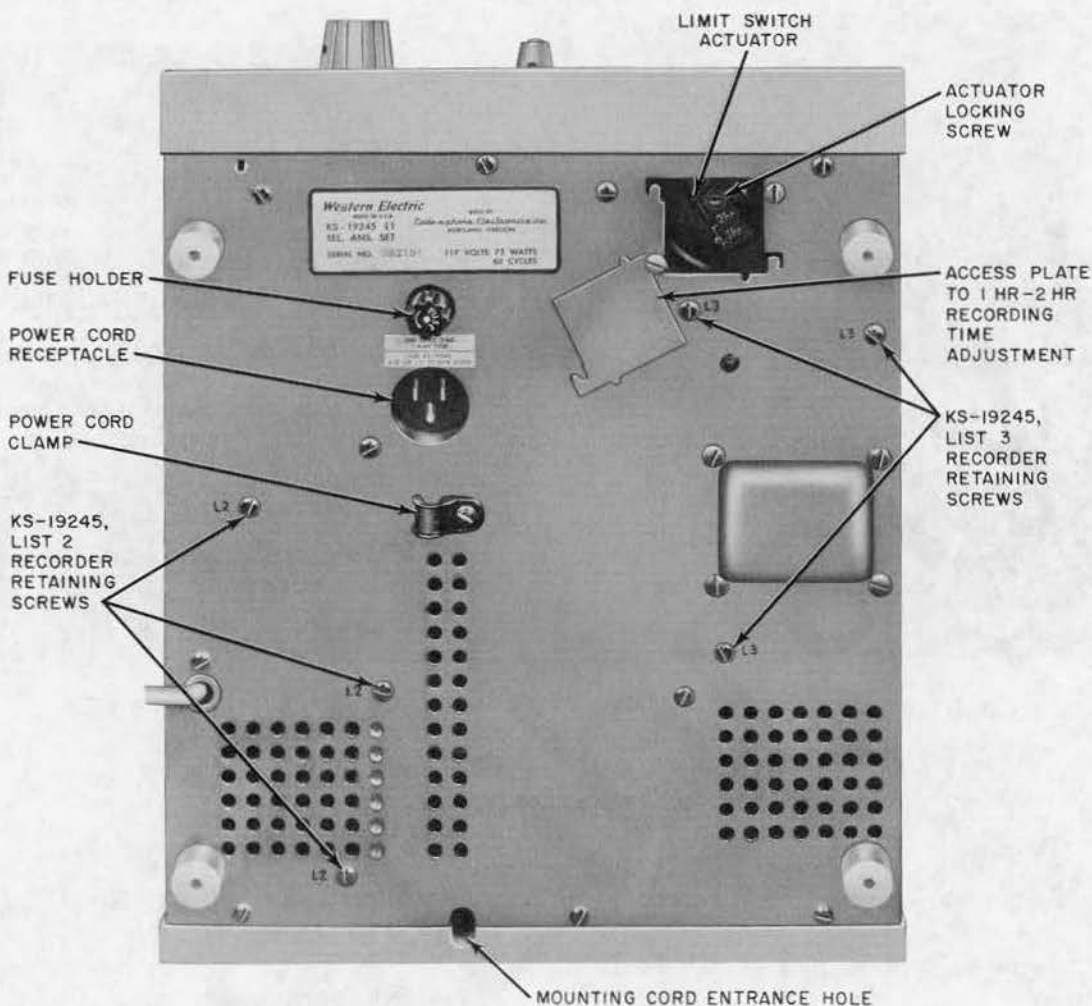
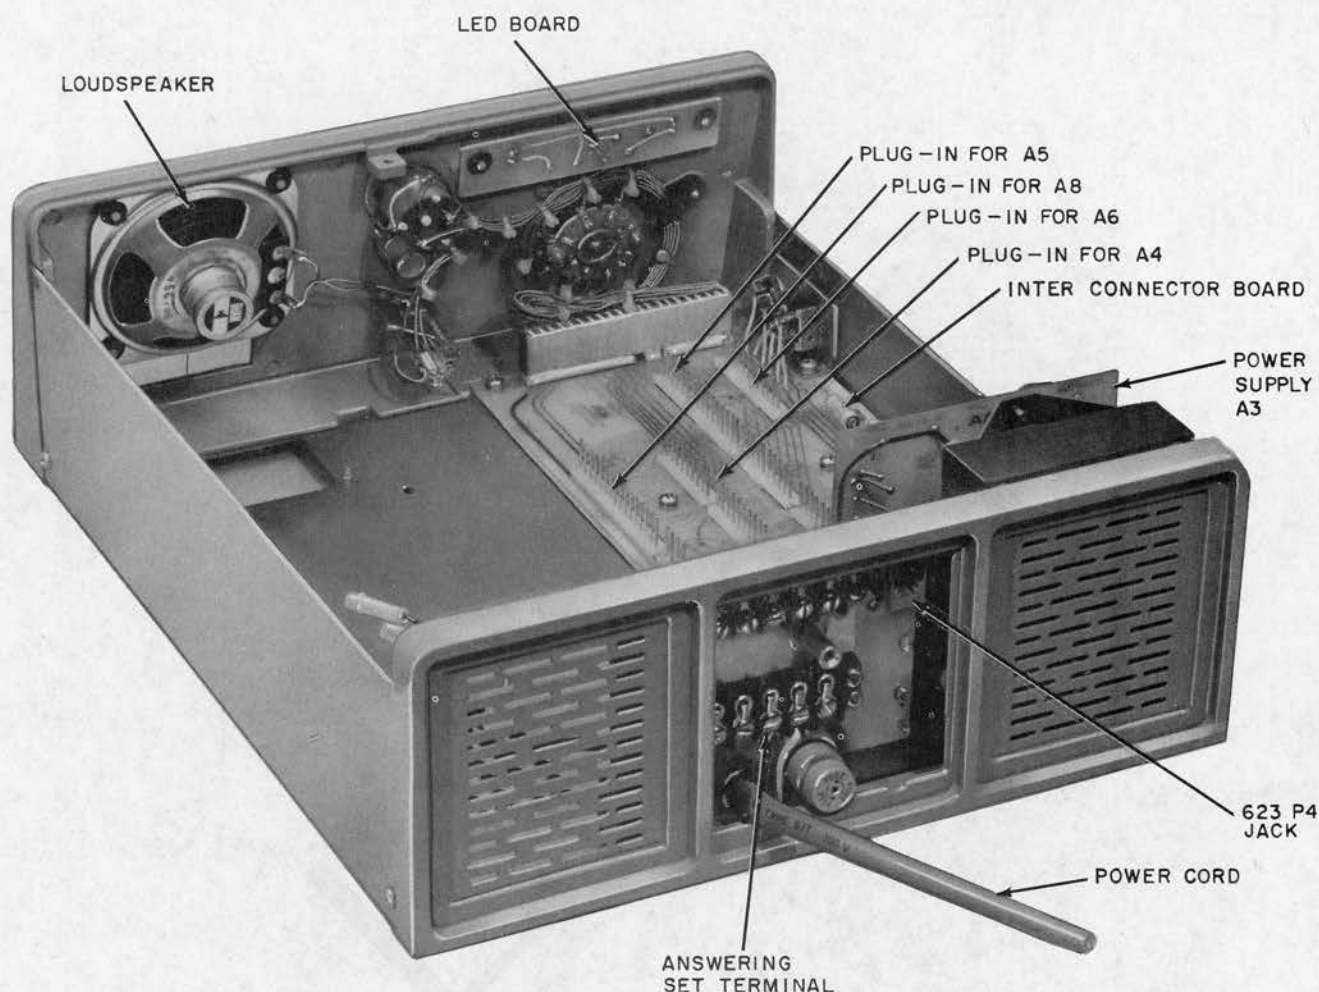
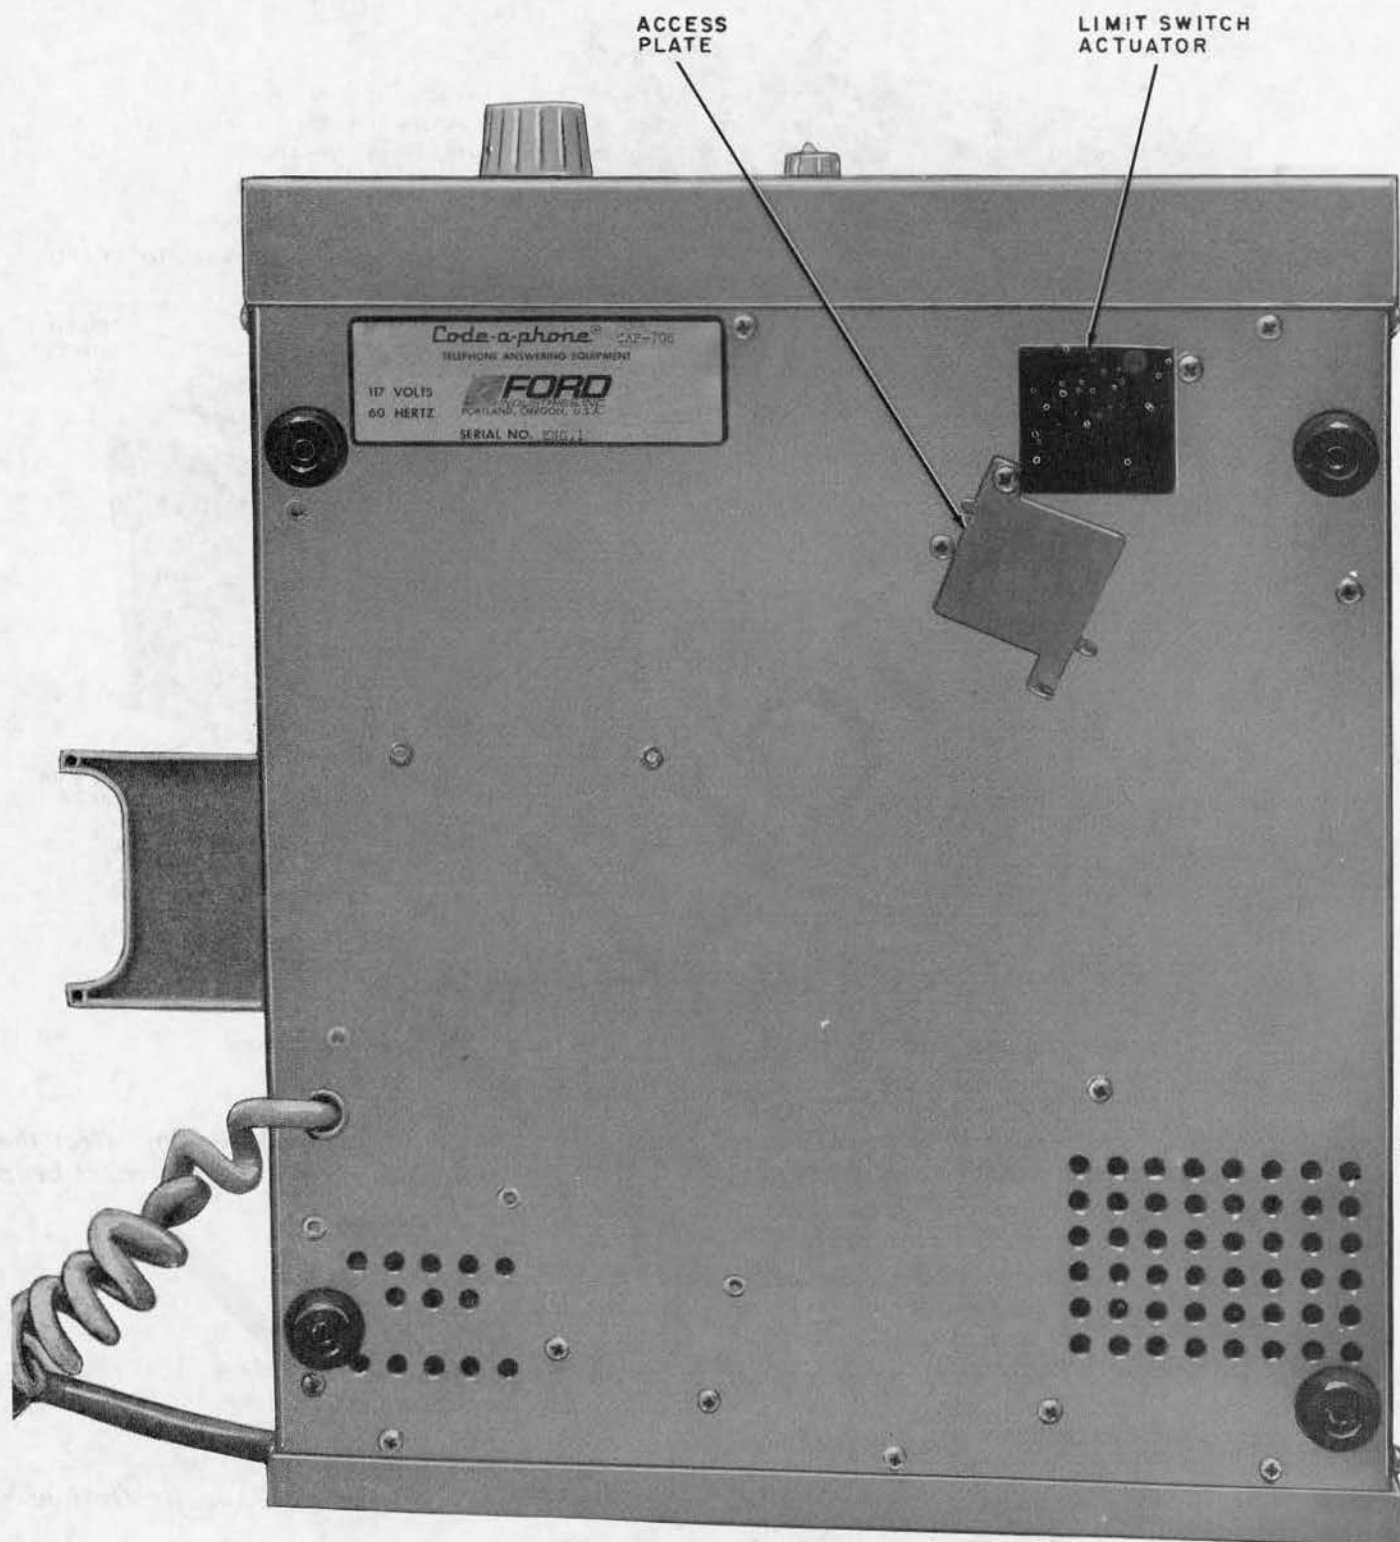

Fig. 19—KS-19245, List 1 Telephone Set—Bottom View
Fig. 20—KS-19245, List 13 Telephone Set—Cover and Components Removed
Fig. 21—KS-19245, List 13 Telephone Answering Set—Bottom View
- (a) Adjust message recording capacity (List 1, Fig. 19; List 13, Fig. 21).
- (3) Remove access plate:
- (4) Adjust limit switch actuator (List 1 set only, Fig. 19):
- (5) Adjust limit switch actuator (List 13 set only, Fig. 21):
- (a) Slide actuator to 2hr position. A detent will lock actuator in position (Fig. 21).
- (6) Replace access plate.
(c) A 1-ampere (3AG1) fuse is provided in this answering set for protection (List 1, Fig. 19; List 13, Fig. 20).
(d) A List 11 power cord (shipped loose) connects to receptacle on List 1 set only (Fig. 19). List 13 set power cord is wired to set (Fig. 20).
(1) Remove terminal board access plate located at the rear of the answering set (Fig. 20 or 23).
(2) Insert suitable mounting cord through hole provided in base of answering set (List 1 only, Fig. 19).
(3) Make connections for type of service required as shown in Table A (List 1 only).
(4) Insert a D4BU mounting cord (ordered separately) into the 623P4 jack at rear of set (List 13 only, Fig. 20).
(5) Replace access plate.